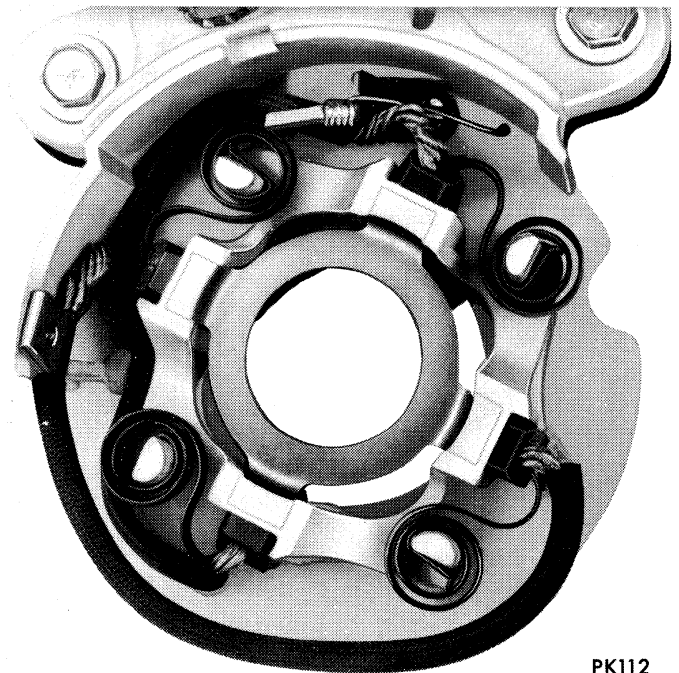

Fig. 34—Positioning Armature Thrust Washers to Brushes
(16) Position brushes with armature thrust washer as shown in Figure 34. This will hold brushes out and facilitate proper installation of armature.